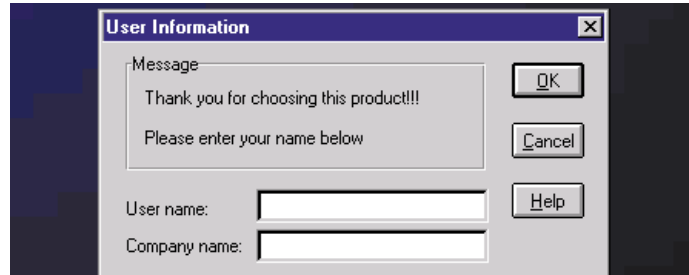

Figure 4-2. MINI-ARRAY software installation: User Information screen
3. A User Information dialog box will appear (Figure 4-2); enter the user's name and company name, then select **OK**.